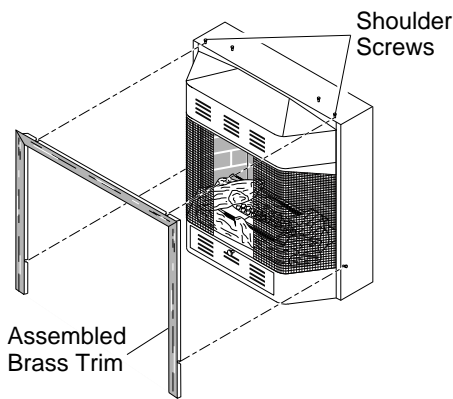

Figure 14 - Attaching Brass Trim to Fireplace
4. Place brass trim on the shoulder screws located on the side and top of the fireplace. Firmly snap the brass trim over the shoulder screws on fireplace (see Figure 14, page 10).